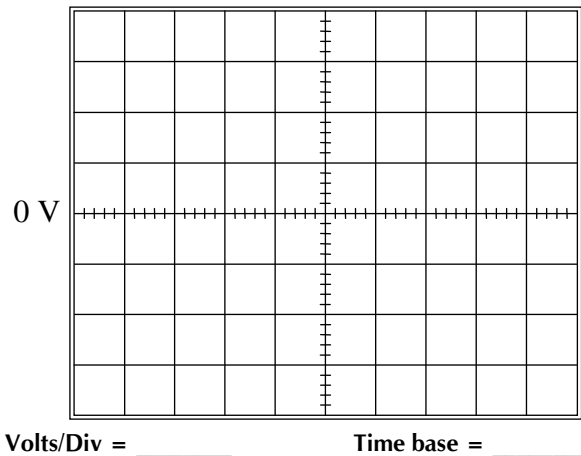

Fig. 3.23 Waveforms v_o (measured)
4. Using the oscilloscope with the coupling switch in DC position obtain the waveform for v_o and record on Fig 3.23. Be sure to preset the $v_o = 0$ V line using the GND position of the coupling switch. Label the maximum and the minimum values of the waveform using the chosen vertical sensitivity.
5. Determine the DC level of the full-wave rectified waveform of Fig. 3.23.